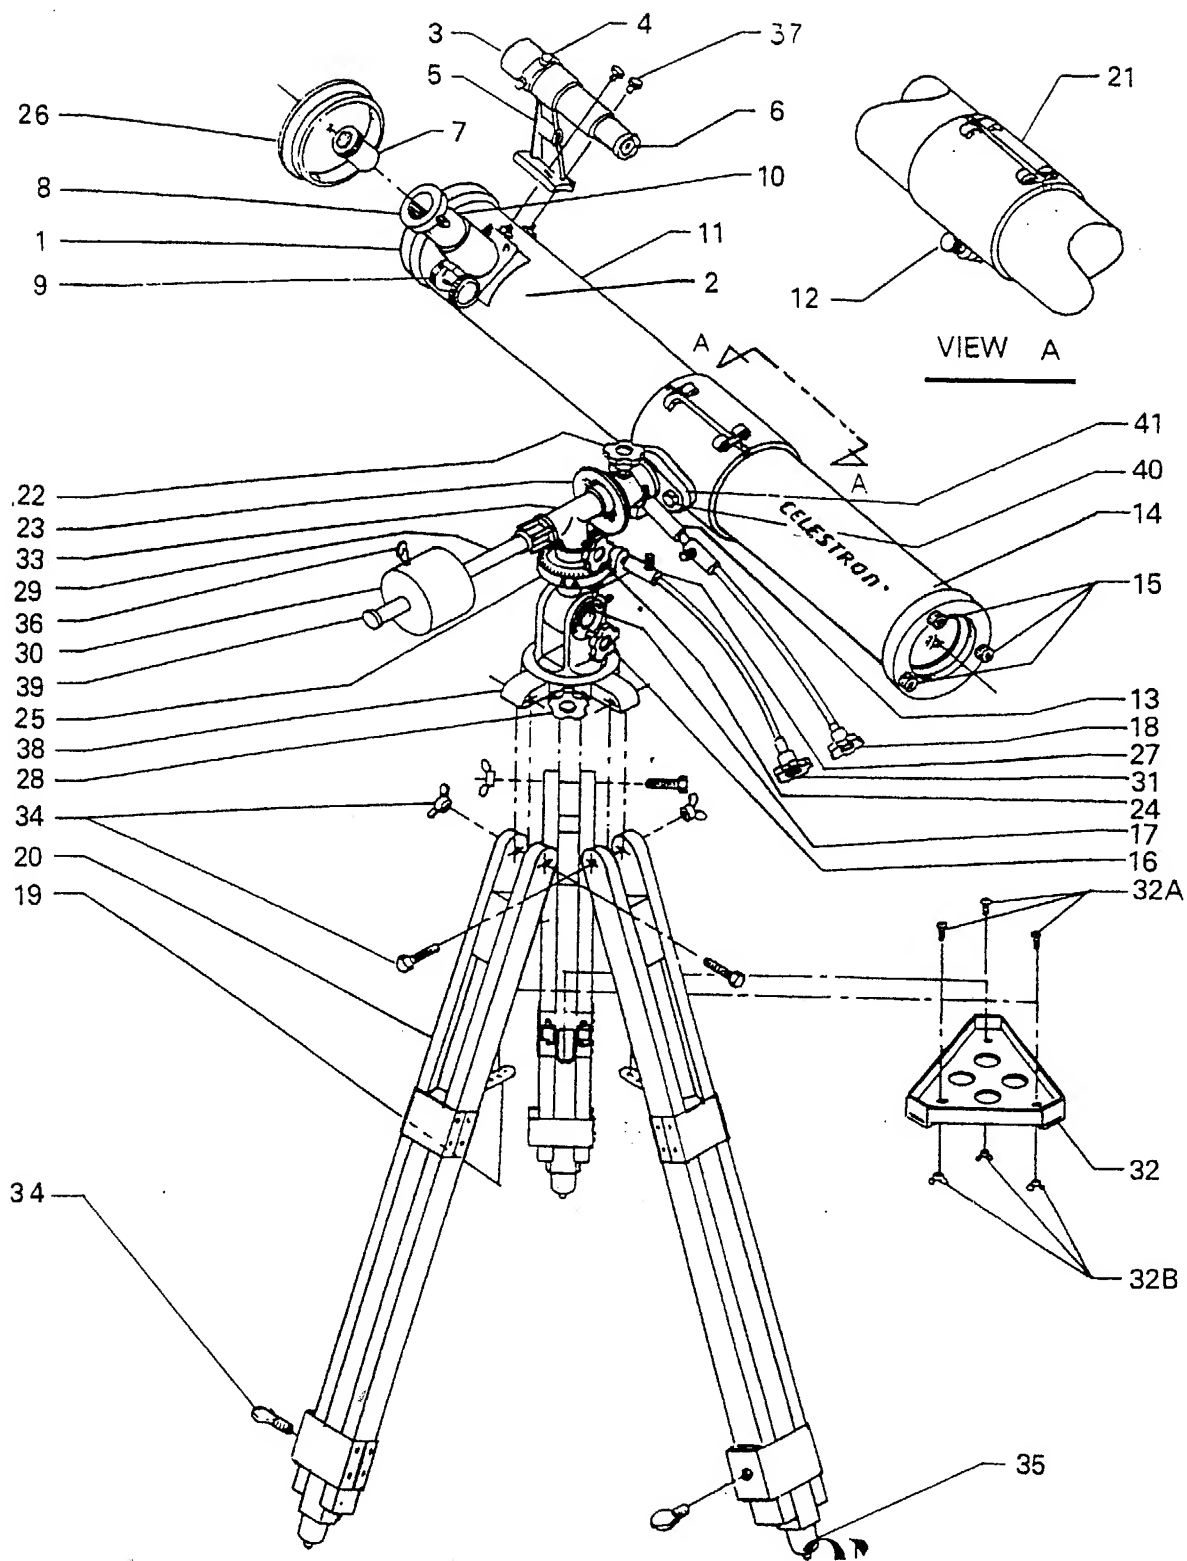

FIGURE 1 - 4.5 NEWTONIAN TELESCOPE
## IDENTIFYING PARTS OF FIGURE 1
Please refer to figure 1 (and the identifying parts list) as you assemble the telescope.
B. Before proceeding further, locate knobs #16, #22, #24 and #28 and tighten all of them finger tight after orienting the mount as illustrated in figure 1.
4. Slide the counterweight shaft (#29) through the counterweight (#30). Use the counterweight lock (#36) to lock the counterweight in place. By holding the counterweight in one hand, thread the counterweight shaft clockwise into the equatorial mount (#33) as shown in figure 1.
1. Remove the two bolts (with the supplied wrench) and washers (#40) from the telescope tube mount bracket (#21). Put the bolts through the saddle bracket (#41), as shown in Figure 1, into the telescope tube mount bracket and tighten.
2. Loosen the tube mount bracket (#21) with the knob (#12) and open the bracket. Hold the tube in the orientation as noted in figure 1. Holding the optical tube in place with one hand, close the tube mount bracket and tighten the bracket knob to firmly hold the optical tube. NOTE: The optical tube may come already mounted in the bracket